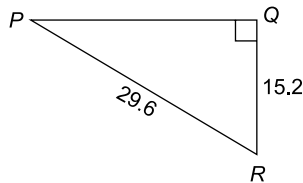

Figure RT1.2
3. In triangle PQR in Figure RT1.2, find angle P in decimal form, correct to 2 decimal places